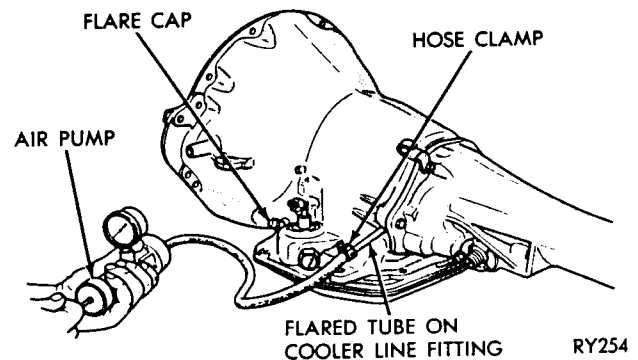

Fig. 13—Pressurizing Transmission
- (4) Attach and clamp hose from the nozzle of Tool C-4080 to tubing which is on the rear cooler line fitting (Fig. 13).
- (5) Pressurize the transmission using Tool C-4080 until the pressure gauge reads 8 psi. Position transmission so that pump housing and case front may be covered with soapy solution or water. Leaks are some-